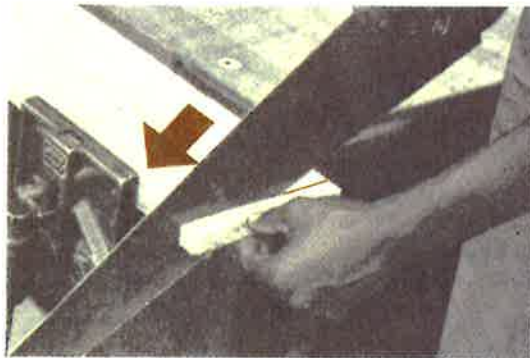

Fig. 8-16. Crosscutting a board held in a bench vise.
6. Finish sawing. Use short, easy strokes. Hold the end of the lumber to be cut off with your left hand (Fig. 8-16). This keeps the wood from splitting or breaking from its own weight.